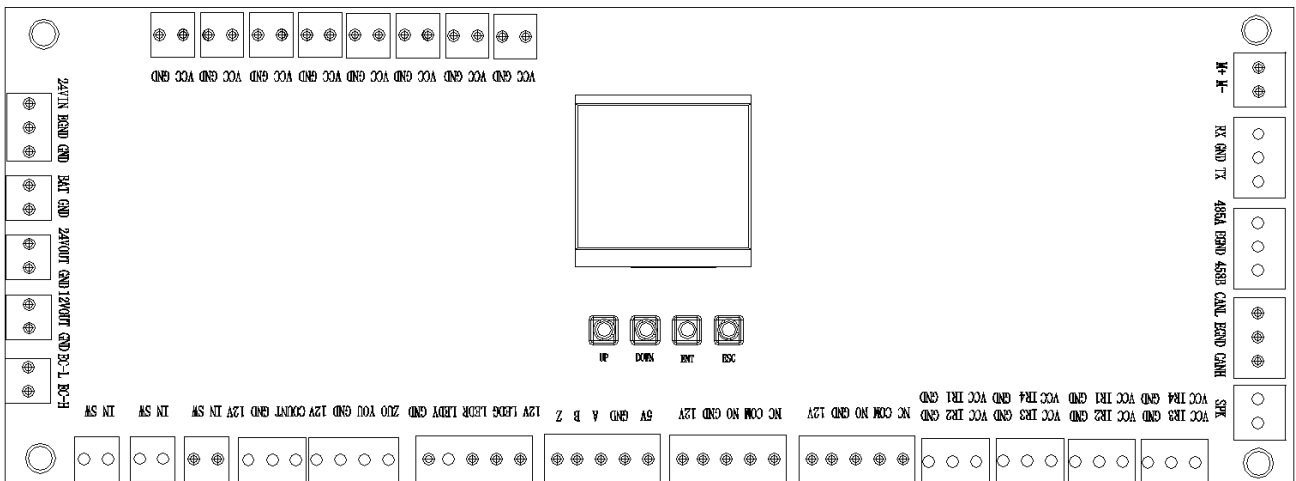

Figure 5-1
2. There are 4 buttons, namely, “UP”, “DOWN”, “ENT” and “ESC” on the control board, as shown in Figure 5-1: